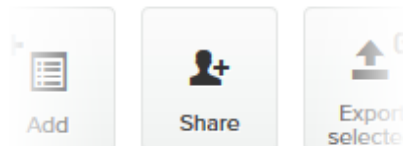

Figure 76. Plug-ins web page (Share button)
4. Click the **Share** button in the upper left-hand corner of the **Plug-ins** web page (Figure 76 (page 156)).